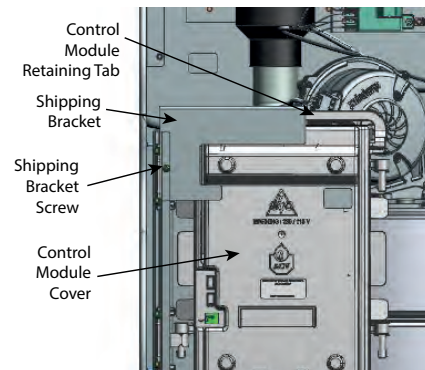

Fig. 8: Control Module
3. Remove the screw holding the metal shipping bracket in place as shown in Fig. 8